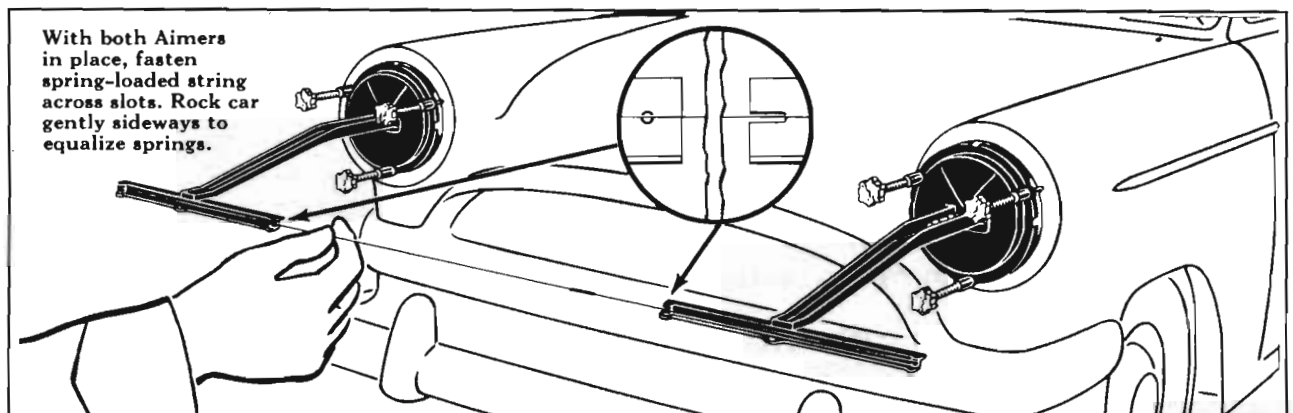

Figure 10-59—Fastening String Across Aimers
5. With both aimers in place, fasten spring-loaded string across slots. Rock car gently sideways to equalize springs. See Figure 10-59.